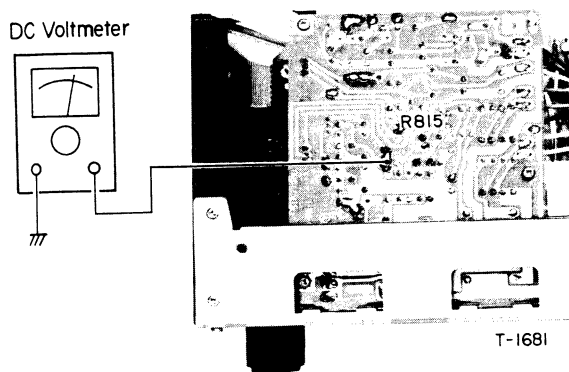

Fig. 6-1 D.C. Voltage Adjustment
1. Connecting the AC voltmeter to the POWER SUPPLY PCB as shown in Fig. 6-1, adjust R815 on the PCB for +23 V DC.